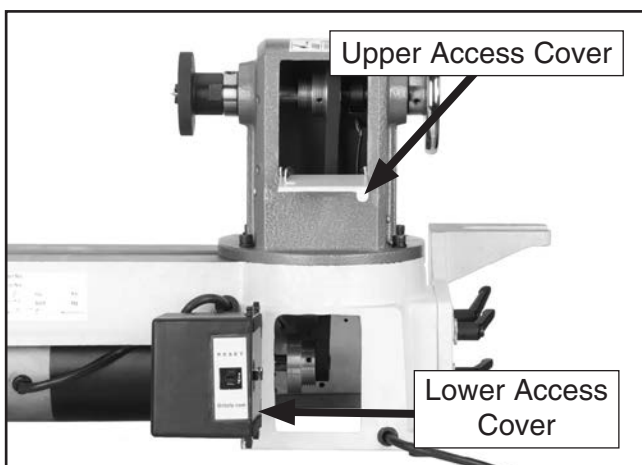

Figure 18. Side and rear access covers.
3. Open the rear access covers (**Figure 18**).